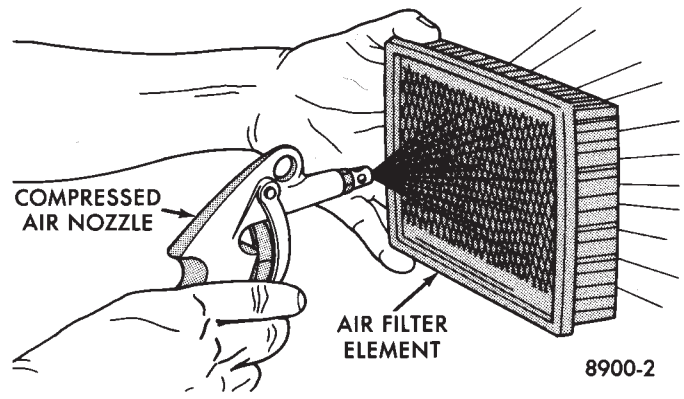

Fig. 10 Cleaning Air Filter Element
- (3) Remove paper air filter element from air cleaner body. Hold a shop light on throttle body side of element. Inspect air intake side of element. If light is visible through element, blow dust from element (Fig. 10) and reuse. If element is saturated with oil or light is not visible, replace filter. If element is saturated with oil, perform crankcase ventilation system tests.